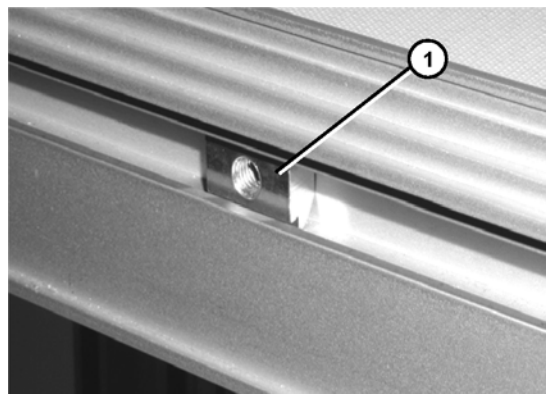

Figure 7
1. Install t-bars (**Figure 7, item 1**) into conveyor t-slot.